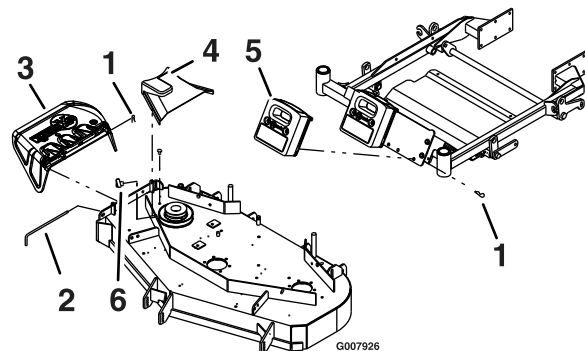

Figure 6
4. Remove the belt cover on the right side of the deck (see Figure 6). Install the blower by inserting the mounting pin into the tube welded to the rear corner of the deck. Pivot the blower until the front pin engages the slot in the deck. Adjust the position of the front pin if necessary to engage the slot. Use the latch to lock the blower in this position.